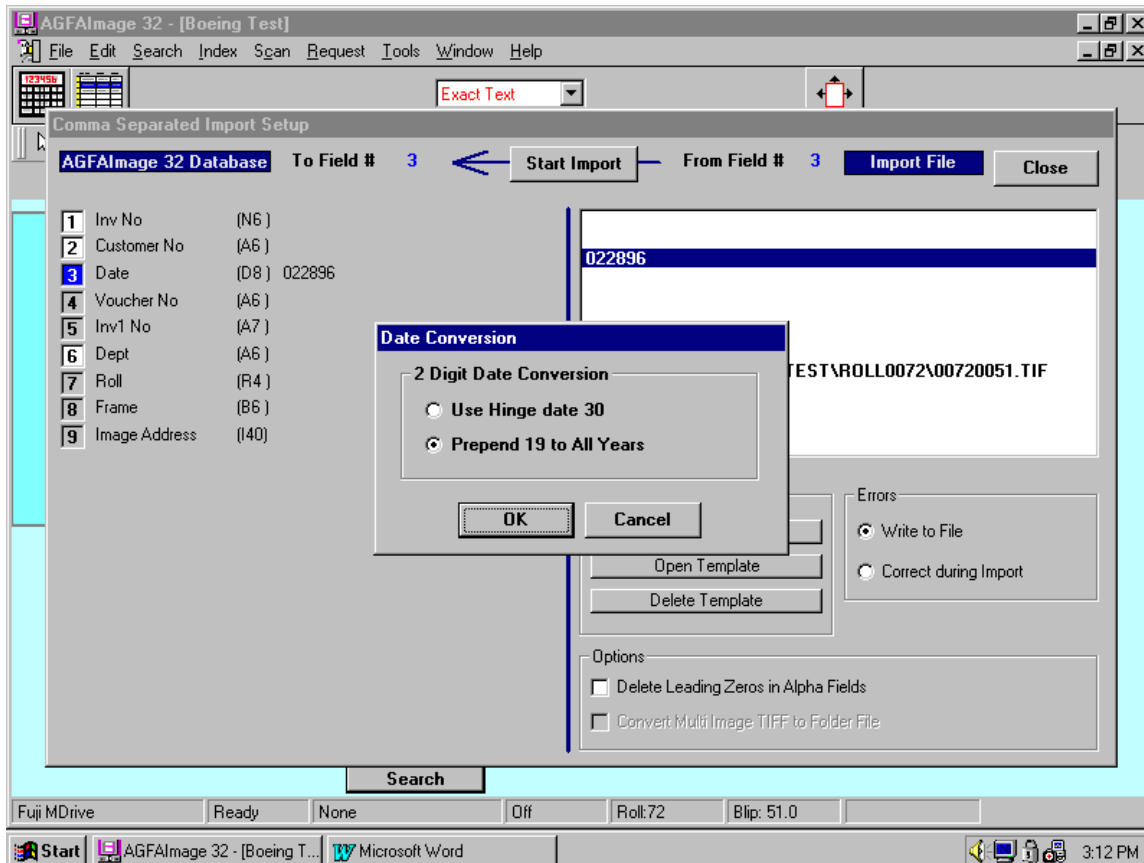
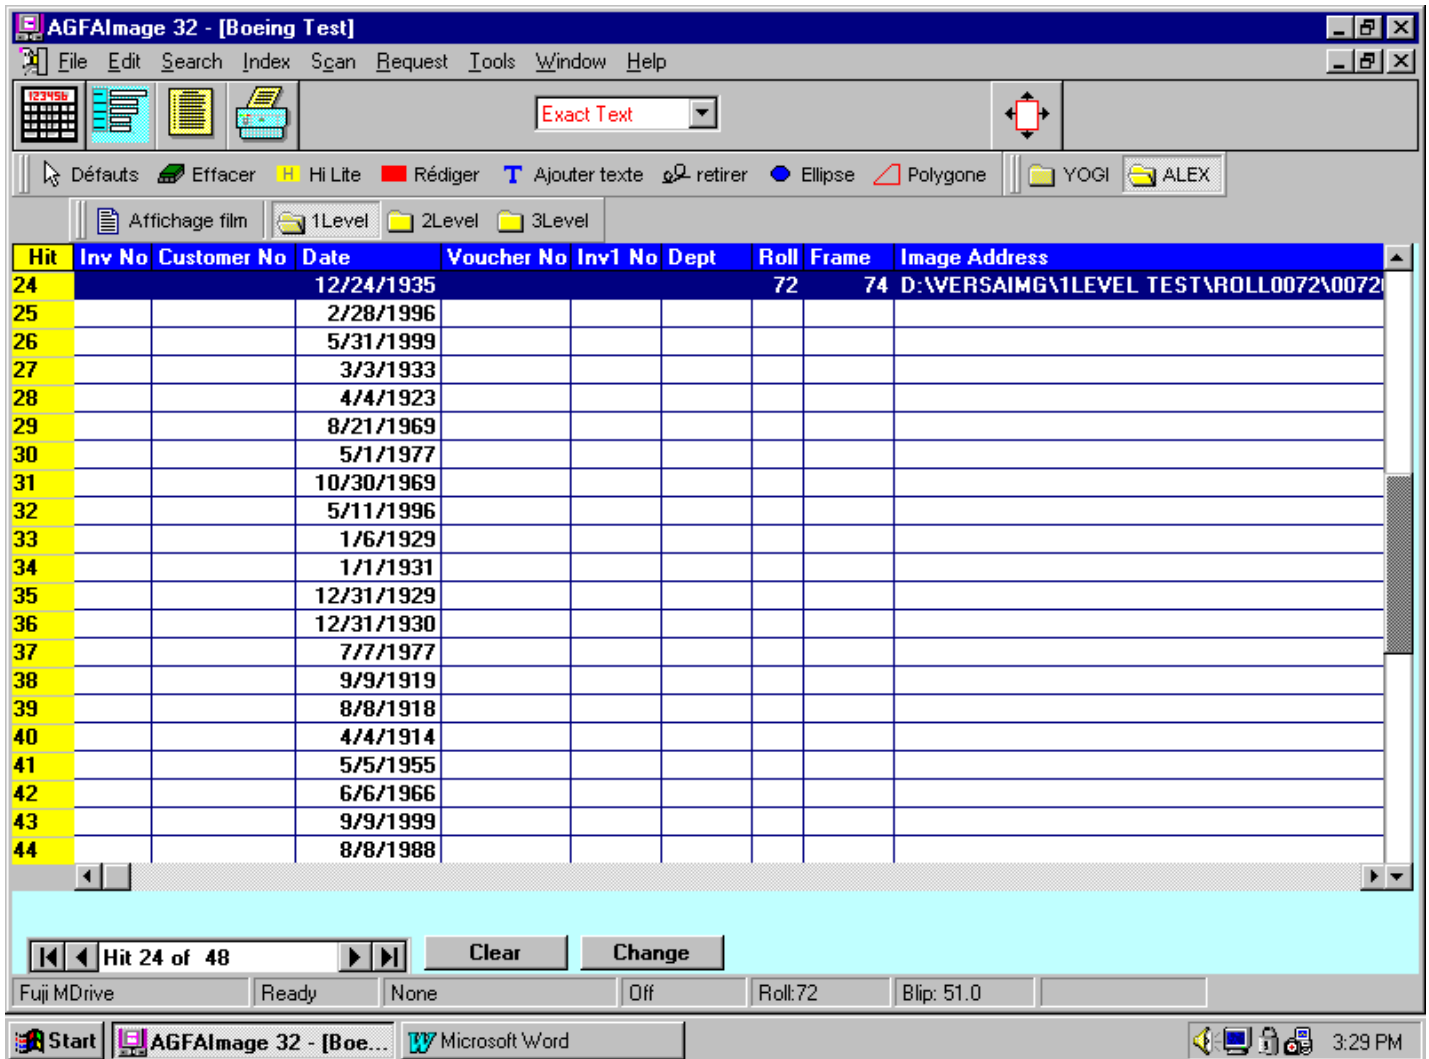

Fig.3
Fig.5
3. On the next screen (shown in Fig.3) click on the fields you want to Import. The program will ask you about the conversion of DATE, when you click on the Date field.
5. If you select option “Prepend 19 To All Years” from the screen shown in Fig.3, you will get the result as shown in Fig.5. Here number 19 will prefix each and every year.